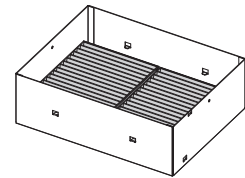

Fig. 3
- When the two air filter units are attached (Fig. 3), proceed to “Attaching the long life filter cover” (➔ page 201) next.